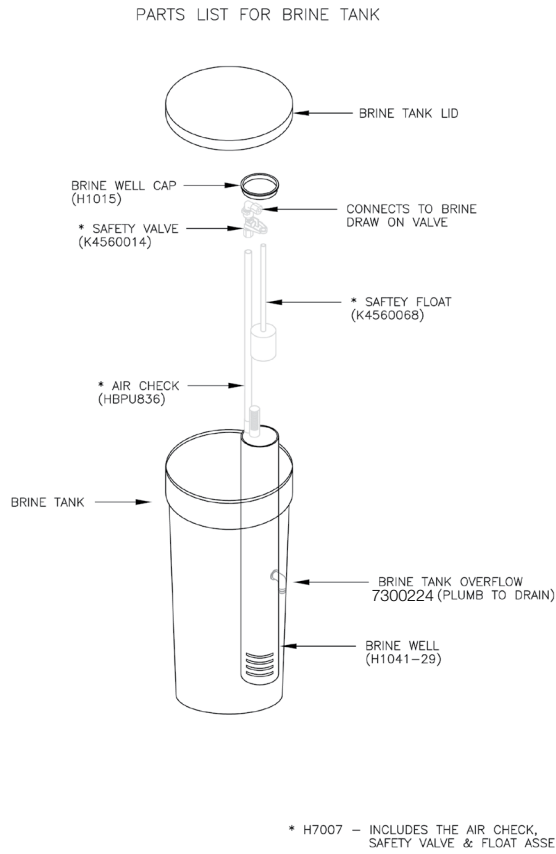

Figure 17
1. **Normal Operation Position:** The inlet and outlet handles point in the direction of flow indicated by the engraved arrows on the control valve. Water flows through the control valve during normal operation and this position also allows the control valve to isolate the media bed during the regeneration cycle. (See Figure 17)